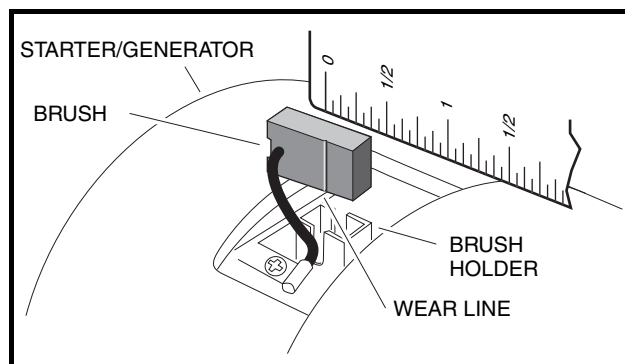

Figure 12-4 Inspect Brushes
2. Check the wear line on the side of the brush. If the end of the brush is within 1/16-inch (1.6 mm) of the wear line, replace all four brushes (Figure 12-4, Page 12-2).